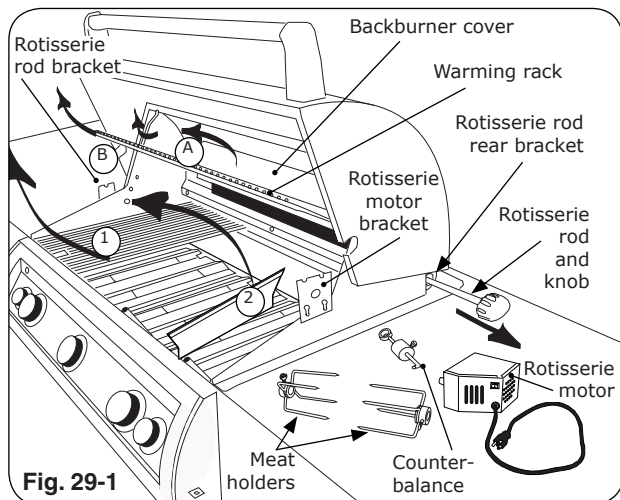

Fig. 29-1
2. Slide rotisserie motor fully onto motor bracket (right side, Fig. 29-1 and 29-2).
3. Remove rotisserie rod from rear bracket (Fig. 29-1) and attach knob if necessary.